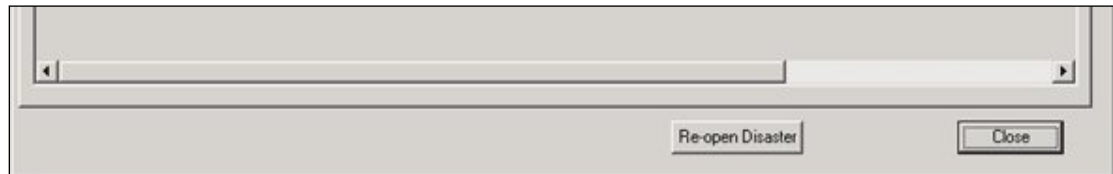

Figure 13-16: Re-open Disaster Button
20. You can re-open the program by clicking the RE-OPEN DISASTER button (Figure 13-16).